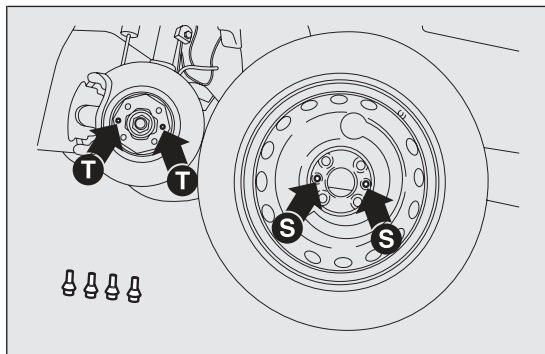

fig. 146
- ☐ fit the space-saver wheel aligning the openings S fig. 146 with the corresponding centering pins T;
- ☐ fit the standard wheel aligning the openings S fig. 146 with the corresponding centering pins T;